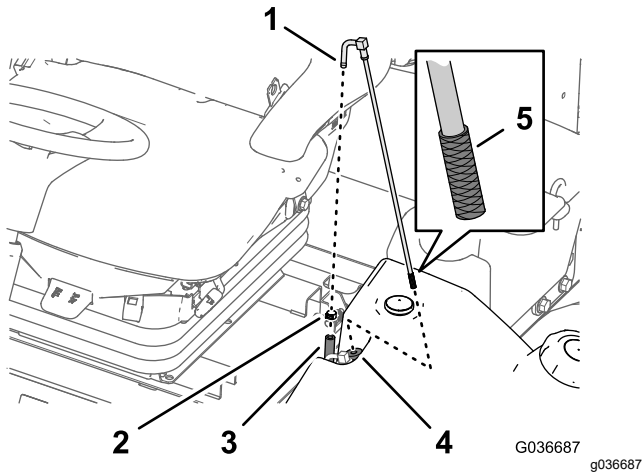

Figure 91
1. Remove the hose clamp that secures the fuel supply hose to the fitting of the fuel-pickup tube (Figure 91).
2. Separate the hose from the fitting (Figure 91).
3. Lift the fuel-pickup tube from the fuel tank (Figure 91).
4. Clean any debris from the screen at the end of the fuel-pickup tube (Figure 91).
5. Insert the fuel-pickup tube through the rubber bushing and into the tank (Figure 91).